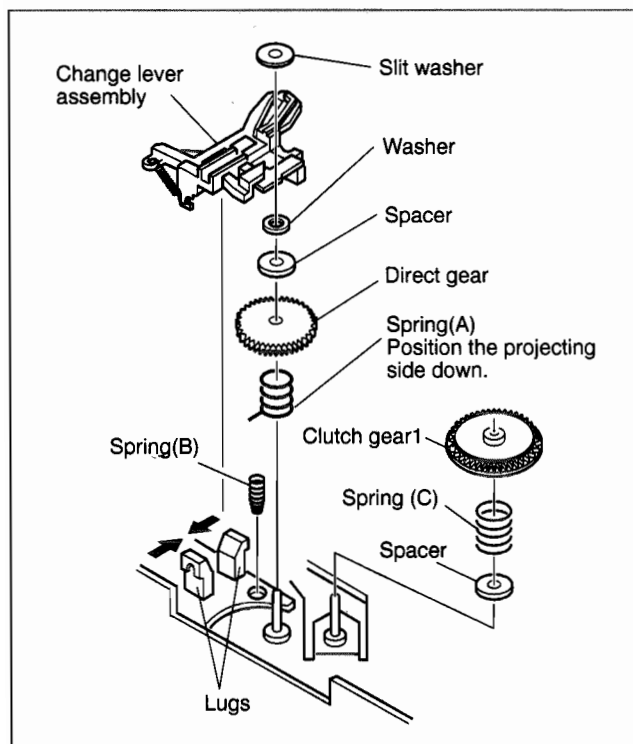

Fig. 2-2-23
Take care so as not to lose the washer and spring. (See Fig.2-2-23.)
- (1) Install the clutch gear1, spring (A), spring (C), direct gear, spacer and others to the individual shafts of the main deck, and finally the slit washer. (See Fig.2-2-23.)